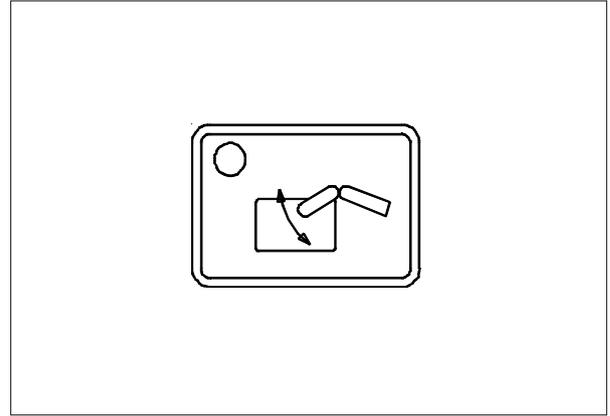

Fig. 33-2
The function is activated by key 15 on the control panel (Fig. 33-2). The function is deactivated by pressing the same key, or by activating relevant joysticks.